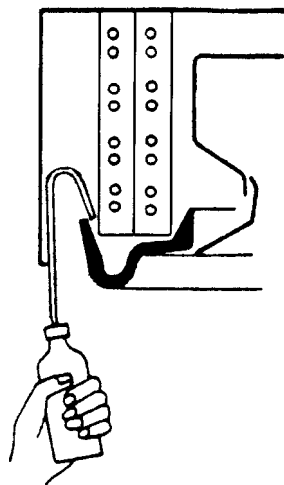

Fig. 18 — Inserting Water into Drain Pan
- b. On the opposite side of the drain connection, insert a water bottle up into the fan coil unit and fill drain pan. Refer to Fig. 18. Water must flow regularly with condensate pump energized. If water does not, check the pipe slope or see if there are any pipe restrictions.